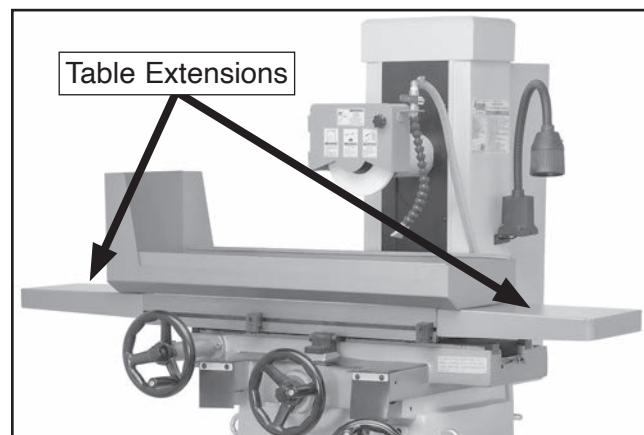

Figure 34. Table extensions installed.
20. Attach table extensions to right and left sides of table with (4) M8-1.25 x 16 cap screws and 8mm flat washers from **Step 12 of Lifting & Placing** on **Page 26** (see **Figure 34**).